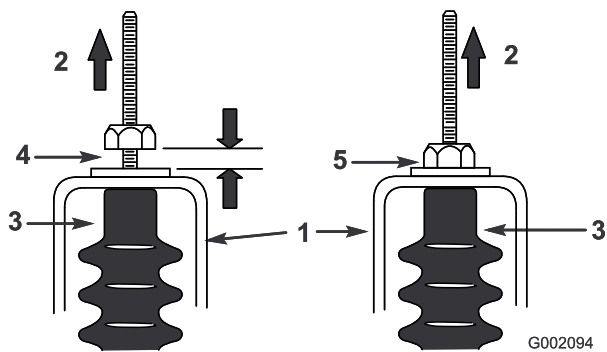

Figure 36
5. Pull up on each shift cable and ensure that there is a 0.03-0.06 inch gap between the nut/washer and the neutral bracket (Figure 36). If there is not a gap adjust the nuts to achieve a gap of 0.03-0.06 inch.